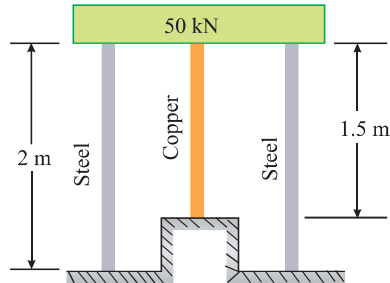

Fig. 4.17
- Two steel rods and one copper rod each of 20 mm diameter together support a load of 50 kN as shown in Fig. 4.17. Find the stresses in each rod. Take E for steel and copper as 200 GPa and 100 GPa respectively. [Ans. $\sigma_C = 39.8 \text{ MPa}$; $\sigma_S = 59.7 \text{ MPa}$]